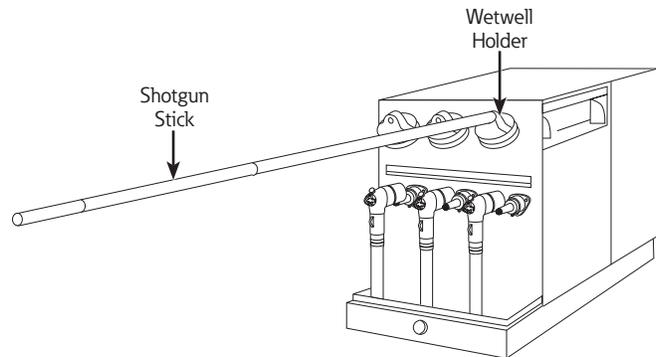

Figure 5. Rotate cap of wetwell holder to break the seal.
- Rotate cap clockwise 1/4 turn with shotgun stick to break seal. (Refer to Figure 5.)